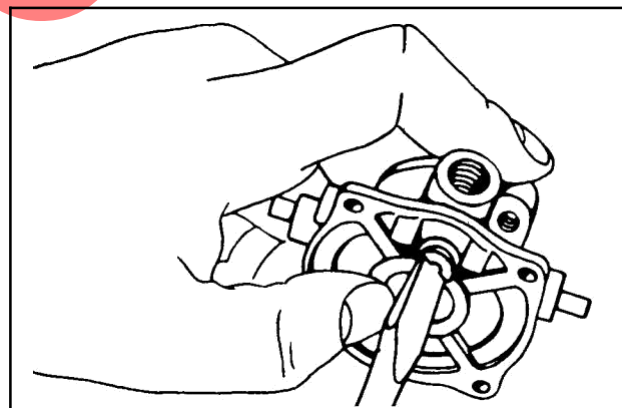

Fig. 273 - REMOVING INLET VALVE SEAT
7. With wide heavy screw driver remove the seat, Fig. 273. Pull venturi out of lower body.